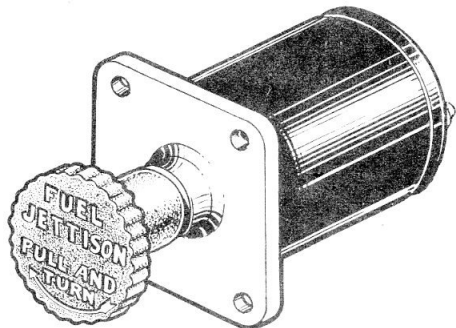

Fig.1 Fuel jettison switch, Type MAA2705
2. A general view of this switch is given in fig.1, with section views in fig. 2. It consists basically of a hand control knob secured to one end of a spring-loaded plunger, an operating pin at the other end of the plunger, three micro switches and a terminal block.